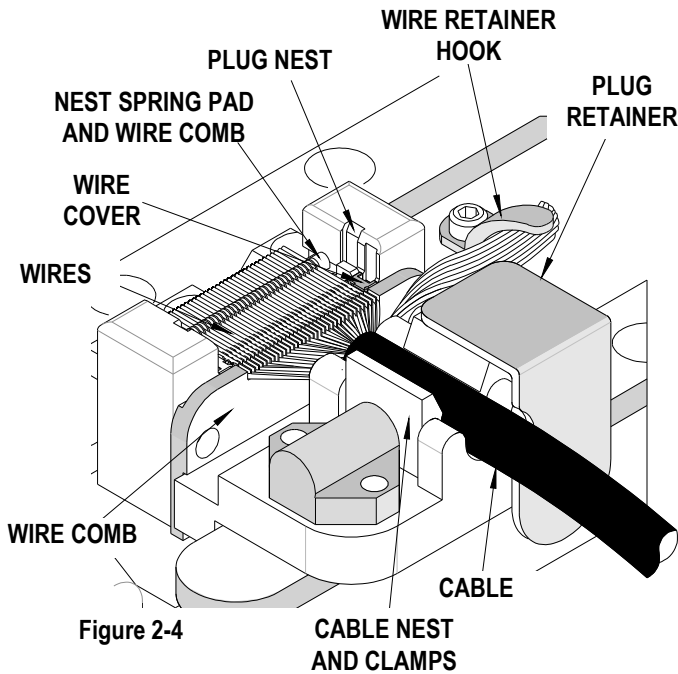

Figure 2-4
4. Fold the wires under the Wire Retainer Hook to keep wires clear while loading the nest. See Figure 2-4.